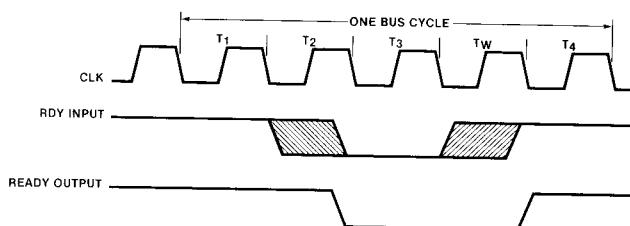

Figure 4-13. Wait State Timing
The READY output, which is synchronized to the CLK signal is coupled directly to the CPU's READY input. As shown in figure 4-13, when the addressed device needs to insert one or more wait states in a bus cycle, it deactivates the 8284's RDY input prior to the end of state T2 which causes the READY output to be deactivated at the end of state T2. The resultant wait state (TW) is inserted between states T3 and T4. To exit the wait state, the device activates the 8284's RDY input which causes the READY input to the CPU to go active at the end of the current wait state and allows the CPU to enter state T4.